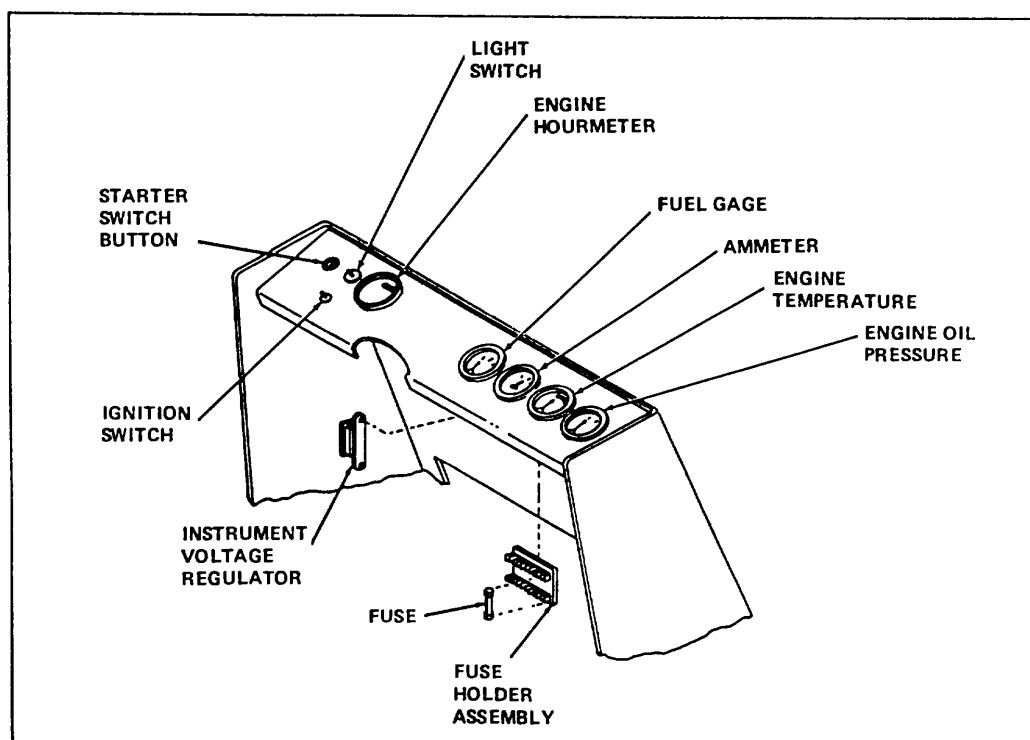

Figure 1-12. Instrument Panel
**1-45. INSTRUMENT PANEL (See figure 1-12).** The instrument panel assembly incorporates the usual standard instruments in a compact group. The engine operation hourmeter is used to determine when periodic service operations are due. In addition to controlling the ignition system, the ignition switch energizes the instruments, and the starter circuit up to the starter button. The light switch operates the spot light and taillight.